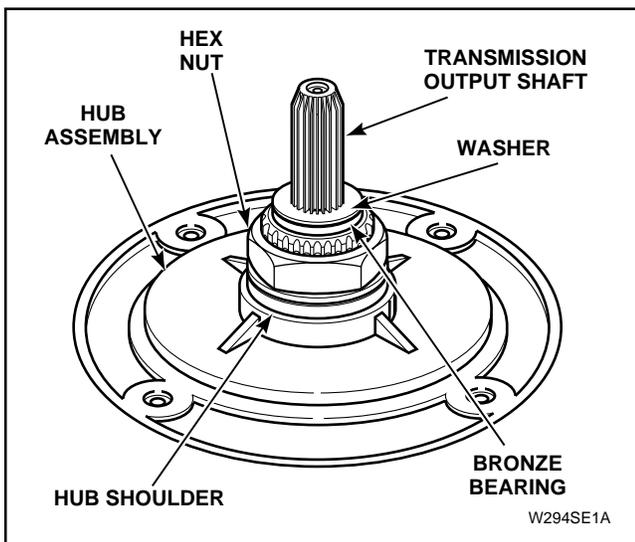

Figure 27
- k. Thoroughly clean all foreign material from seal mounting area of hub assembly, bronze bearing and washer, *Figure 27*.